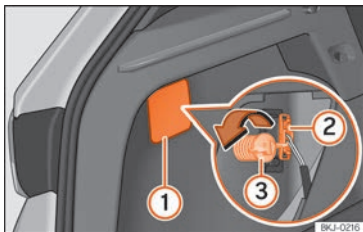
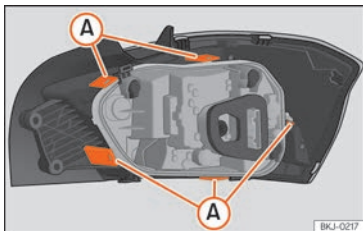

Fig. 163 Boot: access to the bolt securing the tail light unit.
Fig. 164 Retaining tabs on reverse side of tail light.
- Remove the lid, levering the flat side of a screwdriver into the recess >>> Fig. 163 ①.
- Remove the bulb connector ②.
- Unscrew the bolt securing the light ③ by hand or using a screwdriver.
- Remove the bulb holder unlocking the retaining tabs >>> Fig. 164 A.